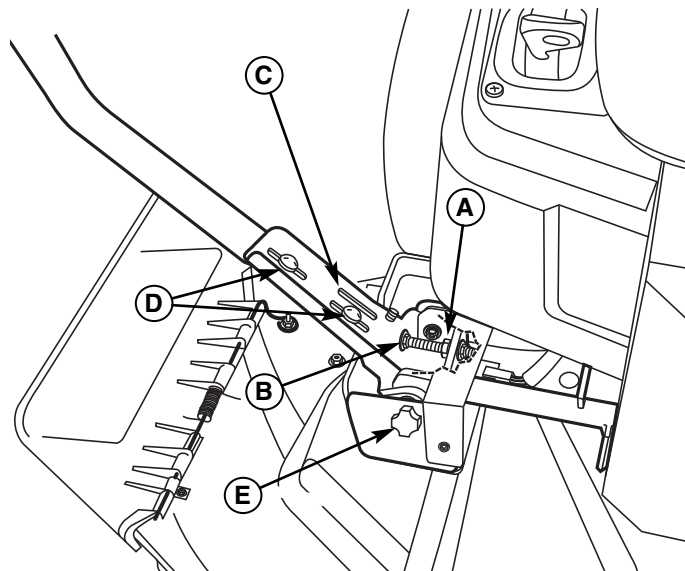
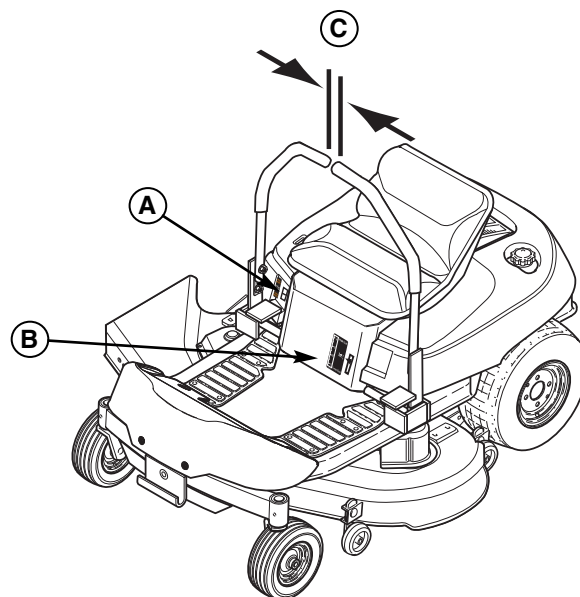

Figure 44. Control Lever Adjustment
Figure 45. Cutting Height Adjustment
To Adjust Control Lever Height: Pull the levers in across the operator's lap to their DRIVE positions. Loosen the mount bolts (D, Figure 44) and raise or lower the levers to the desired position. Tighten the mounting bolts.(D).
To Adjust Control Lever End Gap: The control lever end gap (C, Figure 45) should be adjusted so that the levers do not contact each other when placed in DRIVE positions. Loosen the jam nut (A, Figure 44) and adjust the length of the carriage bolt (B) so that the levers do not contact each other. Repeat on the opposite side. Tighten the jam nut (A) to lock the carriage bolt in position.
To Adjust Operator Clearance: The space between the operator and the control levers can be increase by removing the lower mounting bolt (D, Figure 44), pivoting the lever forward, and reinstalling the capscrew through the control lever and forward slot (C). Repeat with the other ground speed lever.
If the rider veers to the right or left when the ground speed control levers are in the maximum forward position, the top speed of the right lever can be balanced by turning the adjustment knob (E, Figure 44). Loosen the jam nut and turn the knob COUNTERCLOCKWISE to increase speed or CLOCKWISE to decrease speed. Tighten the jam nut when complete.
To increase the mower cutting height (raise the mower deck), press the top of the mower cutting height switch (A, Figure 45) To decrease mower cutting height (lower the mower deck), press the bottom of the switch. Mower cutting height range is 3-3/4" to 1-1/2". The cutting height gauge indicates the position of the mower deck.. The cutting height gauge (B) is located on the front of the rider, just behind the driver's left leg.